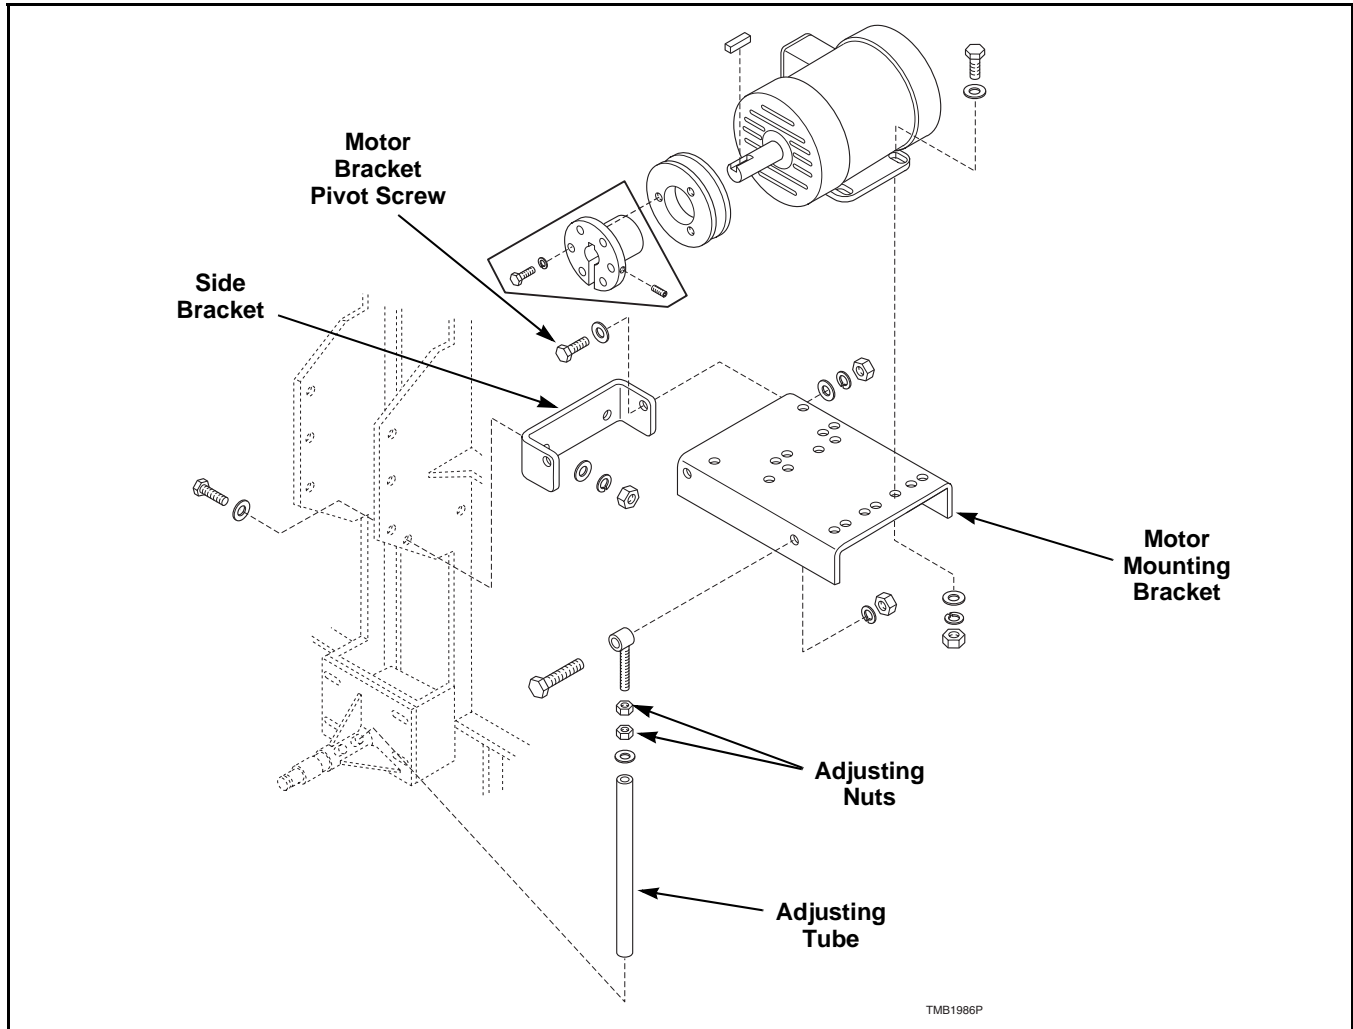

Figure 26
- Loosen adjusting nuts on outer eyebolt and rotate bottom nut clockwise until proper tension is reached. Refer to *Figure 26*.
Refer to *Figure 26*.